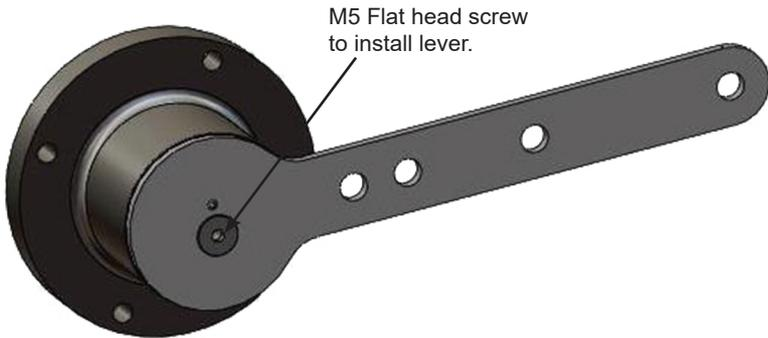

Figure 17 - Magnet Holder and Standard Lever for Reciprocating Valves
2. Ensure that the magnet axis is vertical when the lever is in the valve closed position by pinning the lever to the magnet assembly and securely tightening using an M5 flat head screw and Loctite 222ms or equivalent (Figure 17).